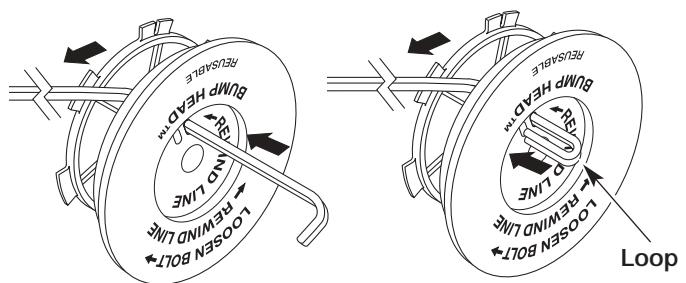

Fig. 30
- Take approximately 20 feet (6.1 m) of new trimming line. Insert one end of the line through one of the two holes in the inner reel (Fig. 30). Pull the line through the inner reel until only about 4 inches is left out.
9. Insert the end of the line into the open hole in the inner reel and pull the line tight to make the loop as small as possible (Fig. 30).